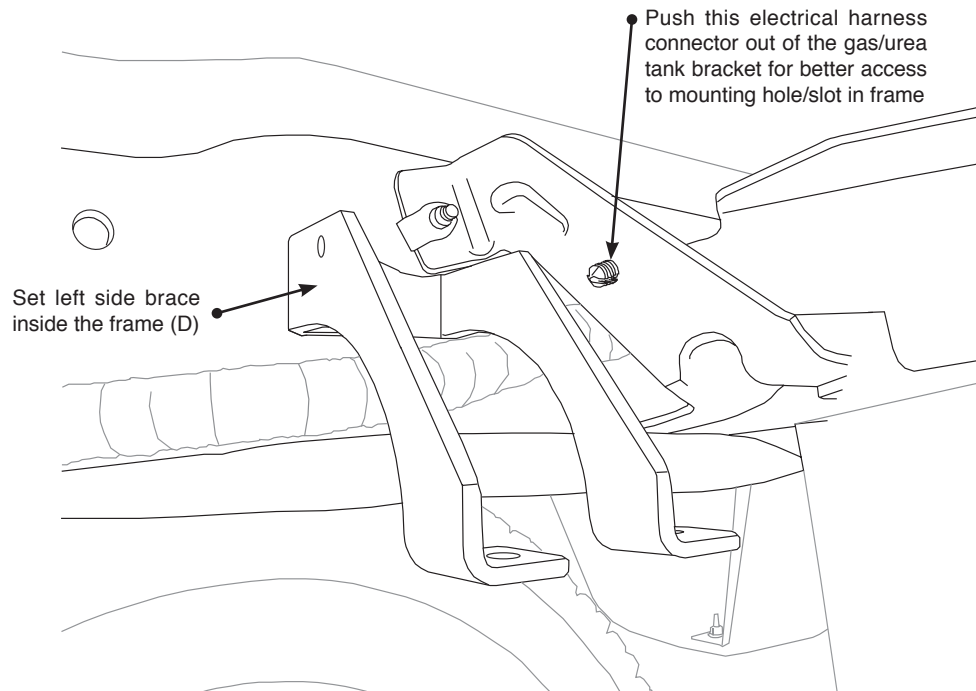

fig. 3
3. If necessary, disconnect the wiring harness from the driver side frame rail to gain clearance for the upper brace. Also, push the harness connector out that holds the electrical lines going to the gas/urea tank in or out of the tank bracket. This will improve the socket/bolt access that will be required for installing and tightening the frame brace (Fig. 3).
8. Once the left (driver side) 1/2" or 3/4" hardware has been tightened, push the wiring harness connector which was removed in the "getting started section" back into the gas/urea tank mounting hole. If this broke during disassembly, wire tie it to the bracket (Fig. 3).